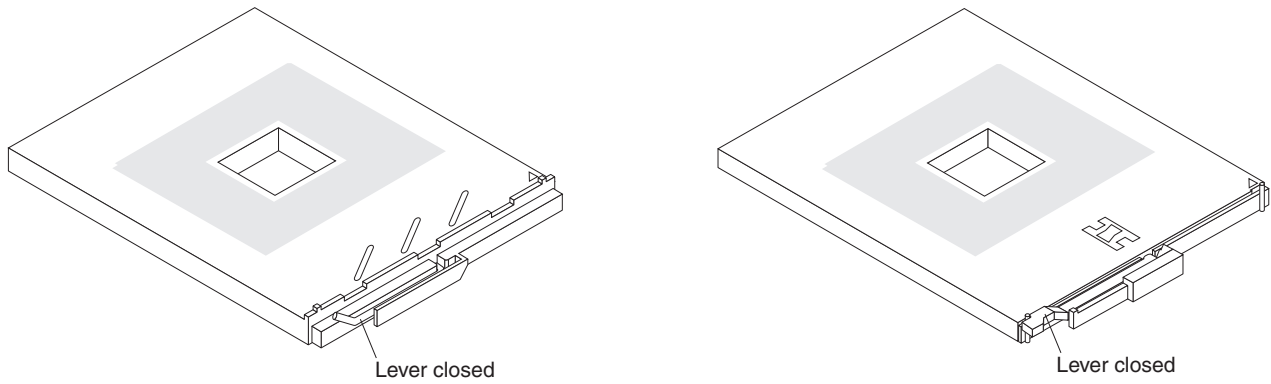
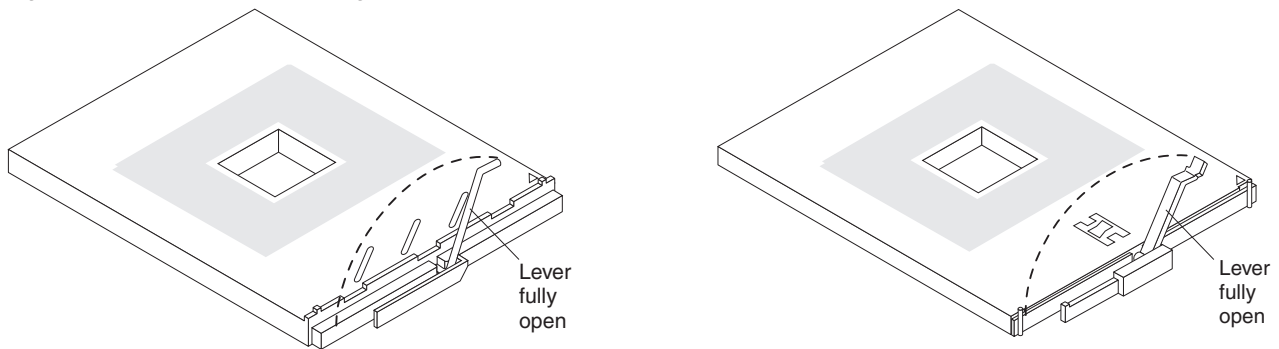

Figure 22. Microprocessor locking lever in the closed position
Figure 23. Microprocessor locking lever in the fully open position
- c. Rotate the locking lever on the microprocessor socket from its closed and locked position (Figure 22 on page 43) until it stops or clicks in the fully open position (approximately a 135° angle), as shown in Figure 23 on page 43.